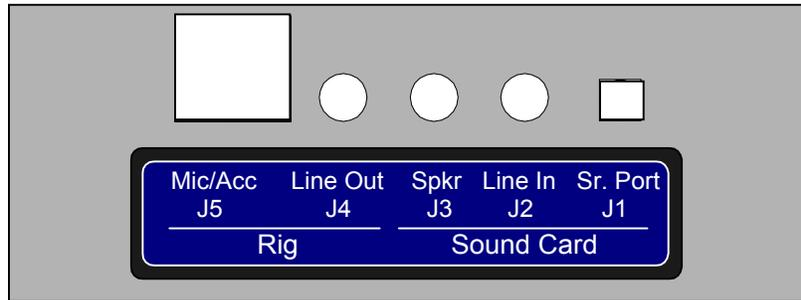

Figure 5.14 Legend Overlay Installed on Back of Enclosure
5.2.2.2.3 Legend Overlay Back of Enclosure - reproduction of the legend for the back side of the enclosure as applied to the back of the enclosure is shown in figure 5.14. This legend should be cut along the black edges of the periphery with no white showing. Apply adhesive to the back of the legend, carefully align it against the bottom edge of the round nuts on the phone jacks and smooth in place.